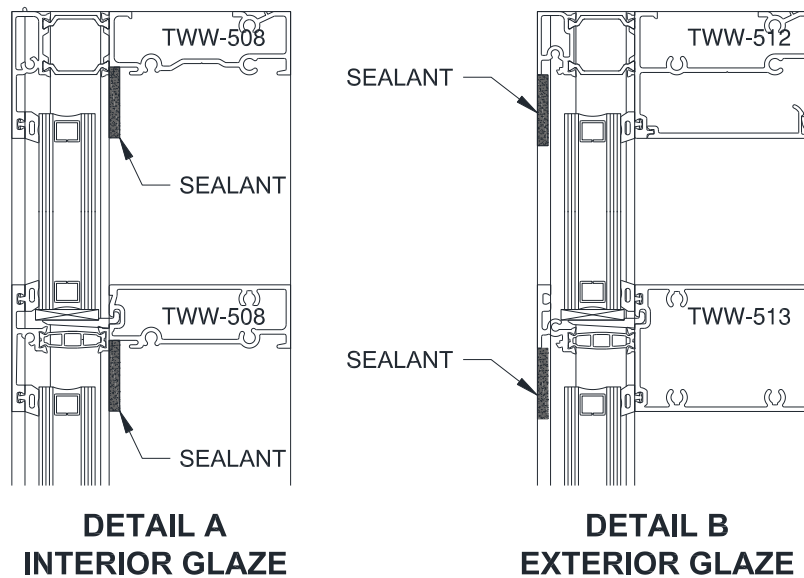

Figure 46: Sealant Application at Glass Stops
15.4.1 Clean the Vertical where the exterior face of the Head and Intermediate Horizontal glass stops will connect. Reference *Figure 46* for location.
15.4.2 Just prior to installing Glass Stop, apply Sealant to the Vertical where it connects to the Glass Stop, as detailed in *Figure 46*.